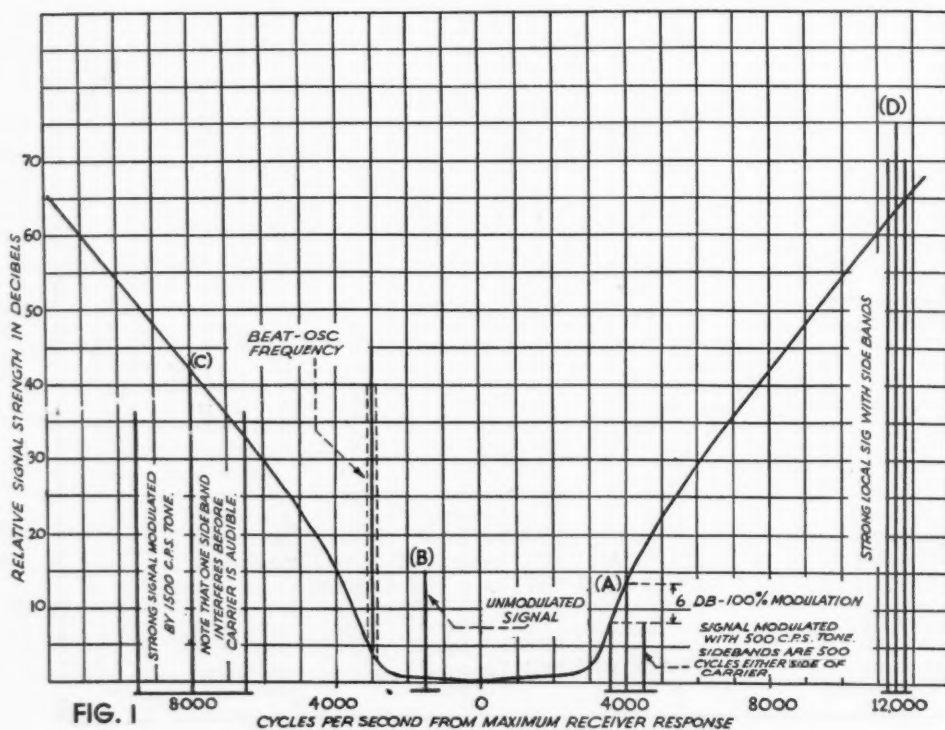

FIG. 1
In Fig. 1 is shown the selectivity curve of a modern superheterodyne receiver suitable for the reception of either fone or CW signals. It is not as selective as the single signal receiver, a selectivity curve of which is shown in Fig. 2, but is much sharper than the average ham receiver which we might define as a tuned RF set using a regenerative detector and one stage of tuned RF amplification. In Fig. 1, (A) represents an ICW signal which is just on the threshold of being audible. This ICW signal is shown with its carrier in the center and a sideband on either side of the carrier. For a signal modulated 100 per cent, the sidebands will be weaker by 6 DB than the carrier. If the signal were modulated only 50 per cent, then the sidebands would be weaker than the carrier by about 12 DB. Since the slope of the receivers' selectivity curve is not at all vertical, it is seen that as the receiver is tuned into this modulated signal the carrier is audible at the same time and on the same point on the dial as the first sideband. In other words, if the receiver is tuned to the pure DC signal, (B), and the ICW signal starts up, the sideband interference from (A) is no greater than the carrier interference from (A), and if (A) were a pure DC signal with the same carrier amplitude as it now has, the interference with (B) would be just as great as the ICW interference. Now suppose that (A) and (B) are very close together and that (B) is of the same strength as the carrier of (A). (A) is modulated and has sidebands, (B) is unmodulated but due to the difference in the characters of the notes it will be easy for a good operator to copy either one or the other, which he could not do if both signals sounded exactly the same.
From Fig. 1 it is seen that a modulation tone of about 500 cycles per second is allowable without increasing the interference. If we take into consideration the fact that this receiver has a sharper selectivity curve than the average ham receiver, it will be seen that modulation tones of up to about 500 cycles per second should not be unreasonable. If modulation tones higher than 500 cycles per second are used it is seen from (C) of Fig. 1 that our superheterodyne receiver would pick up the first sideband before the carrier is audible, and so the signal could be called broad for this particular set.
From the foregoing we can see that the amount of interference caused by a good modulated note in a given receiver depends on the slope of the selectivity curve of that receiver. If we were to take the slope of our superheterodyne receiver of Fig. 1 as an average of ham receivers, then modulations of up to 500 cycles per second should not be unreasonable, and even higher modulating tones might be used if the percentage of modulation is reduced. For reasons to be shown later, it would probably be best not to use tones much higher than 500 cycles per second, regardless of how low the percentage of modulation.
There is one place where modulated notes would give trouble and we should examine this case to see just how serious this might be. In Fig. 1 (D) represents a very strong local signal which will be heard even though several kilocycles removed from the desired signal. If this signal were pure DC and had no key thumps, its beat note beating with our oscillating detector would be quite high in frequency and therefore would not interfere. If this signal is modulated, its beat notes will still be quite high but the beat note between carrier and sidebands will be audible and interference will result locally. There are several answers to this objection. First, since we have agreed to keep our modulating frequency low, 500 cycles or lower, it would be
FIG. 1 shows a circuit of the grounded-grid type for use with the new Heintz & Kaufman Type 354 Gammatron. When this circuit is used it is not necessary to neutralize, because the input circuit is shielded from the output circuit by the grid. Thus a rapid change in frequency can be made. The plate-to-filament capacity of the 354 Gammatron is negligible, and therefore its use is permissible in the circuit shown. However, this circuit also has